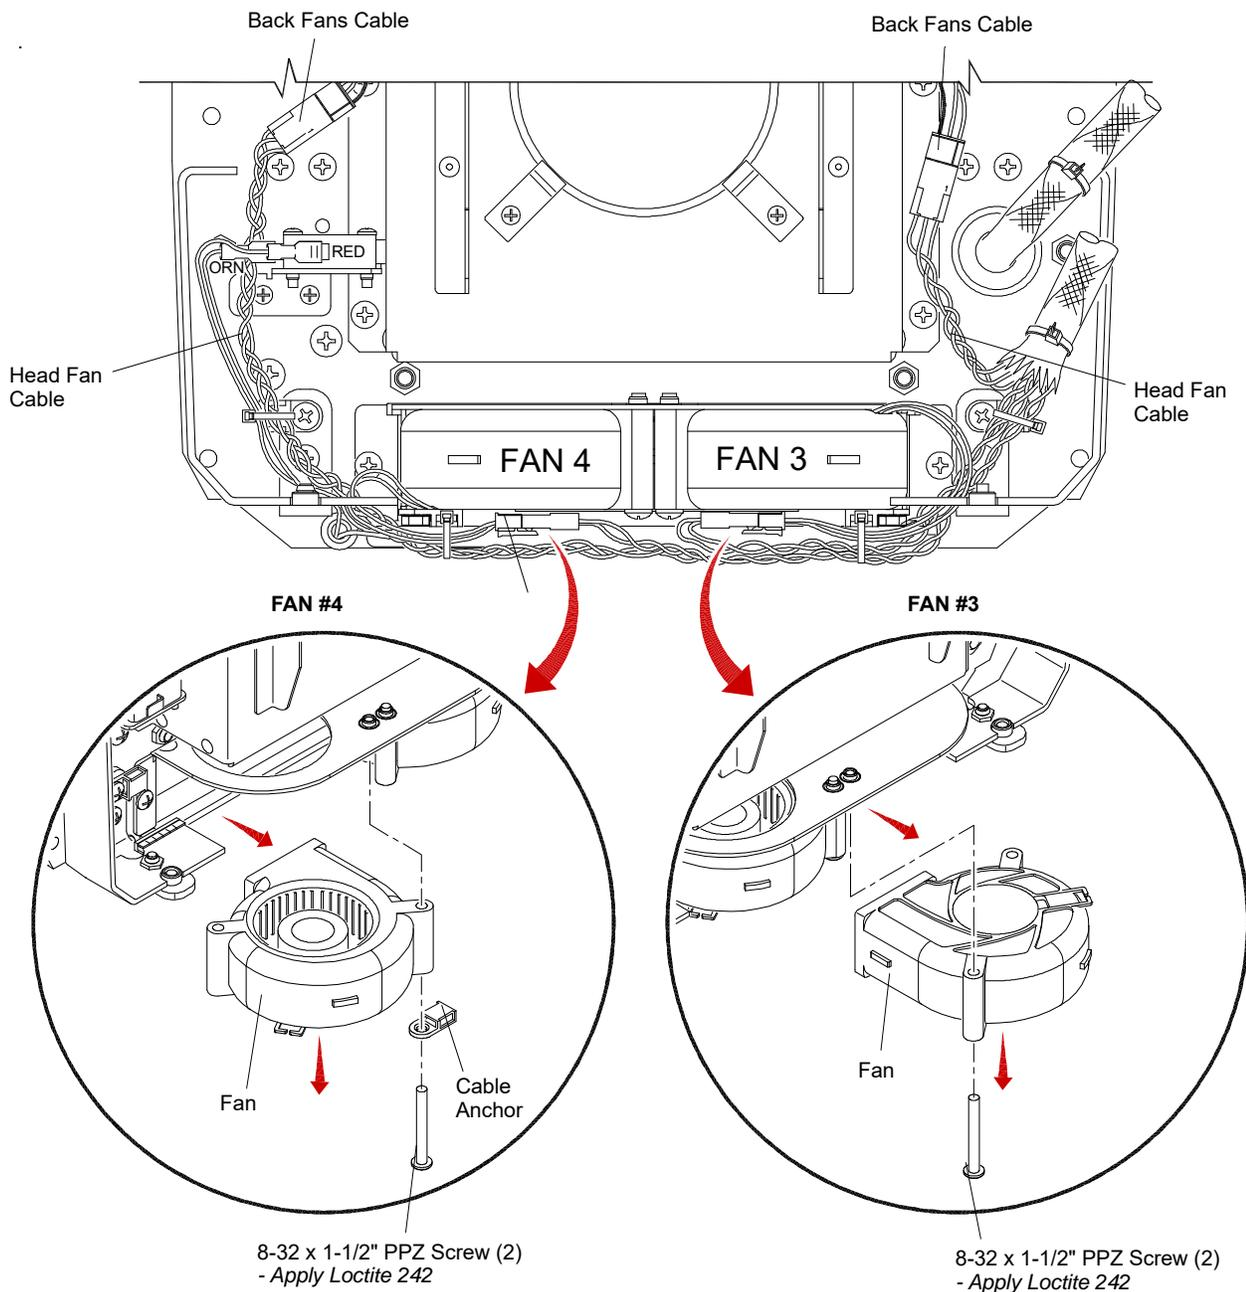

Figure 3-43: Replacing Back Fan #3 or #4
- Step 4. At required fan, cut cable ties which secure Head Fan Cable to Head Assembly (Figure 3-43).
- Step 7. Install new Head Fan Cable Assembly - along with saved cable anchor for Fan #4 - by doing steps in reverse. Apply Loctite 242 to screws when installing new Fan as shown in Figure 3-43.